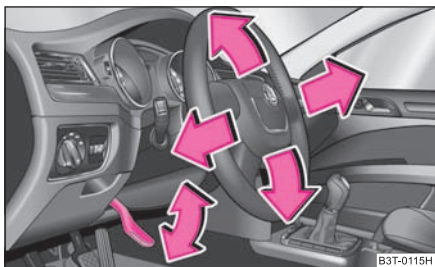

Fig. 119 Adjustable steering wheel: Lever next to the steering column
- Pull the lever below the steering column ⇒ fig. 119 down ⇒ ⚠.